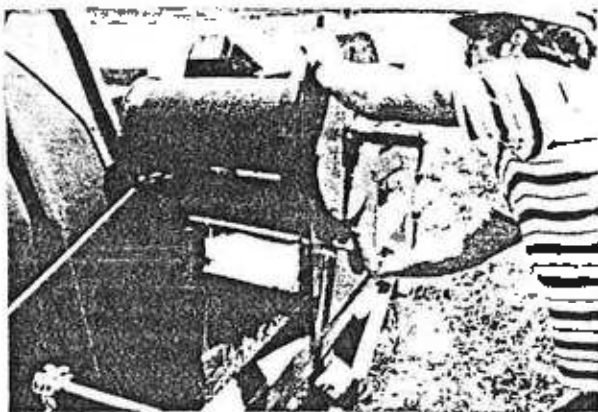

FIGURE 28
- A. The hand pump is used to regulate air pressure inside the air brake. Figure 28